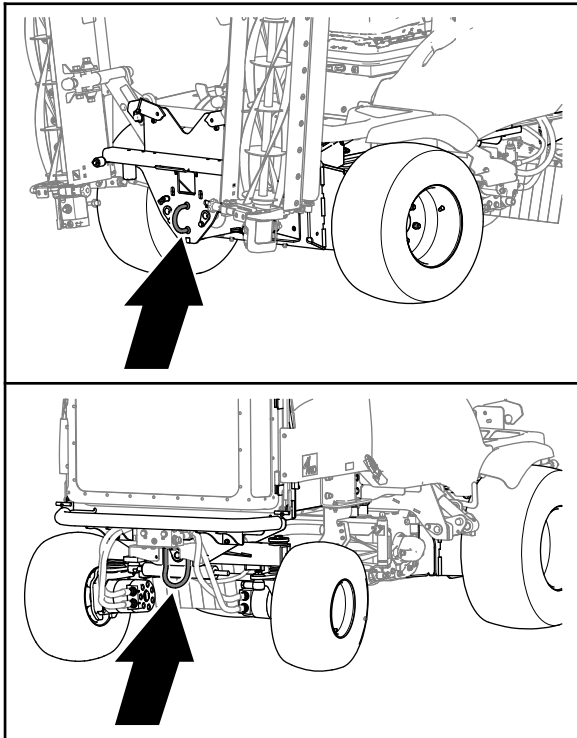

**Figure 42**
4. Remove the 2 bolts (12 x 40 mm) and 2 washers (12 mm) stored in the platform support rails (Figure 42).